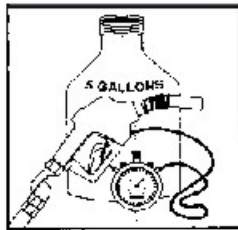

FIGURE 6/ 图 6
- Equipment required: stop watch (Figure 6) 5 gallon vented test can
- 所需设备: 秒表 (图6) 5加仑出口测试桶